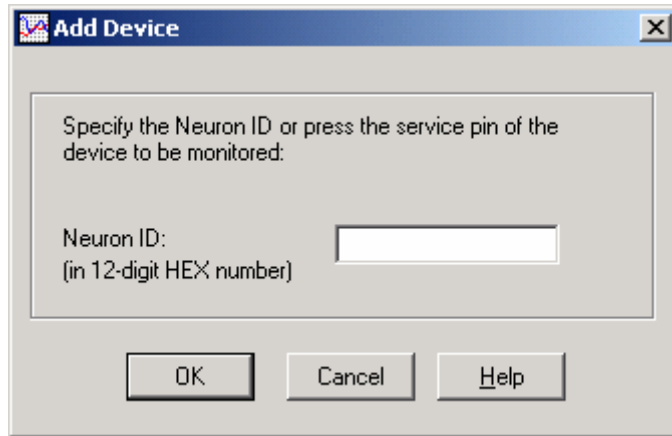

Figure 3.3 Add Device Dialog
4. Select a target device running the MGDemo application in the **Device** box. Click the arrow to view any devices that you have recently added or that have been automatically discovered through the ISI protocol. You can select one of these devices, or you can click the **Add** button to add a new device. If you add a new device, the window shown in Figure 3.3 opens.